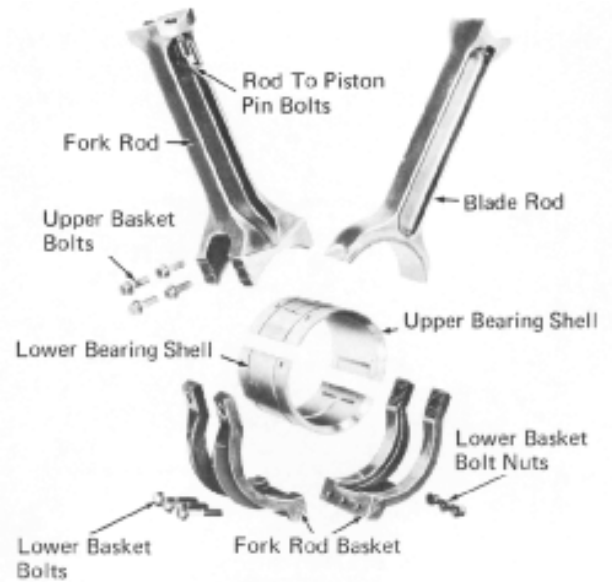
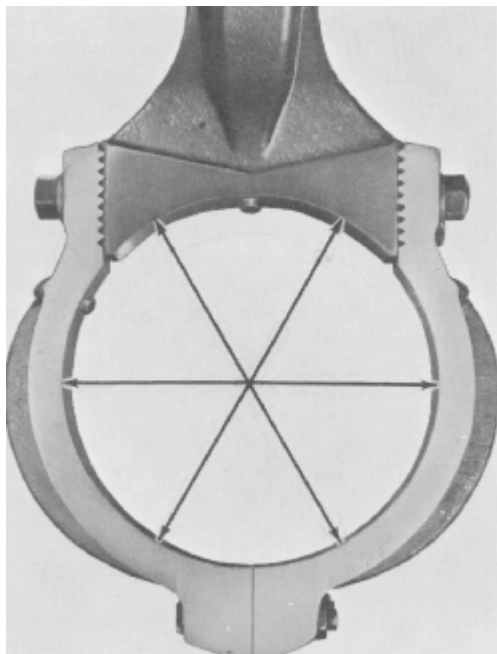

Fig. 3-12 -"Connecting" Rods, Bearing Shells, And Basket
Fig. 3-14 - Checking Fork Rod Bore
The "trunnion type" connecting rods, Fig. 3-12, are interlocking, blade and fork construction. The blade rod moves back and forth on the back of the upper crankpin bearing and is held in place by a counterbore in the fork rod.
The fork rods are installed in the left bank. Serrations on tile sides of the rod at the bottom thatch similar serrations on the fork rod basket, Fig. 3-12. The rod basket consists of two halves.
4. Check fork rod bore by fastening basket securely in place using 238 N-m (175 ft-lbs) torque on upper basket bolts, Fig. 3-12. (Normal upper basket bolt torque is 258 N-m [190 ft-lbs] on assembly.) Torque lower basket (split line) bolts to specified value. Measure bore at points 60° apart as indicated in Fig. 3-14. Take one set of measurements at generator end of bore and one set at accessory end of bore. The average of each set of dimensions must not exceed the specified maximum. If bore is beyond this dimension, the rod and basket should be reworked.
Connecting rod bearings consist of upper and lower shells, Fig. 3-12. They are semicircular in shape and have a steel back with a layer of lead bronze bearing material covered by a lead tin coating on the inside diameter. The upper bearing has, in addition, a bearing surface in the center of the outer diameter consisting of a layer of bronze bearing material with a pure lead-flash overlay. This provides a bearing surface for the slipper of the blade connecting rod.
The connecting rod bearings should be checked whenever the piston and rod assembly is removed from the engine. To make this check, apply bearings to fork rod and basket in which they are to be used. Torque upper basket bolts to 258 N-m (190 ft-lbs), and torque lower basket (split line) bolts to 102 N-m (75 ft-lbs). Measure bearing bore at three points 60° apart. This is similar to the procedure used when checking fork rod basket bore, Fig. 3-14. The average of these three readings must not be less than is necessary to ensure a clearance between crankpin journal and bearing within the specified limits. After operation, rod bearings may give indication of being tight across the split line when